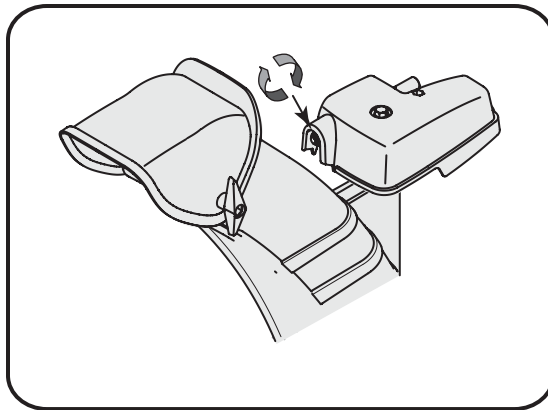

Figure 5-2 - Models with tall chute only.
- While preventing the chute control rod from turning tighten the nut on the chute gearbox assembly. See Figure 5-2.